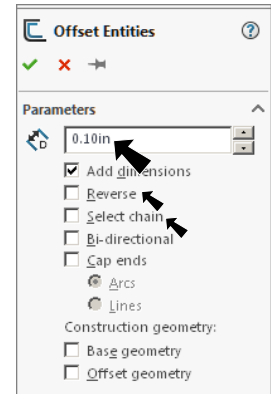

Fig. 6
Step 2. In the Offset Entities Property Manager set: under Parameters, **Fig. 6**